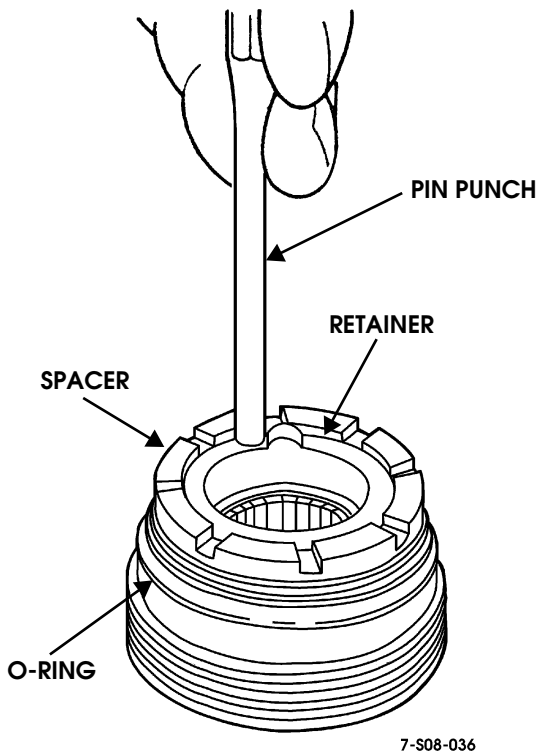

Figure 8-63: Seating Adjuster Plug Retainer
8. Install O-ring on stub shaft cap (Figure 8-63).
9. Align slot in valve body with pin in wormshaft flange and insert wormshaft into valve body (Figure 8-63). Be sure wormshaft flange is fully seated in stub shaft.
6. Seat retainer in adjuster plug with pin punch (Figure 8-63).
7. Install O-ring on adjuster plug (Figure 8-63).